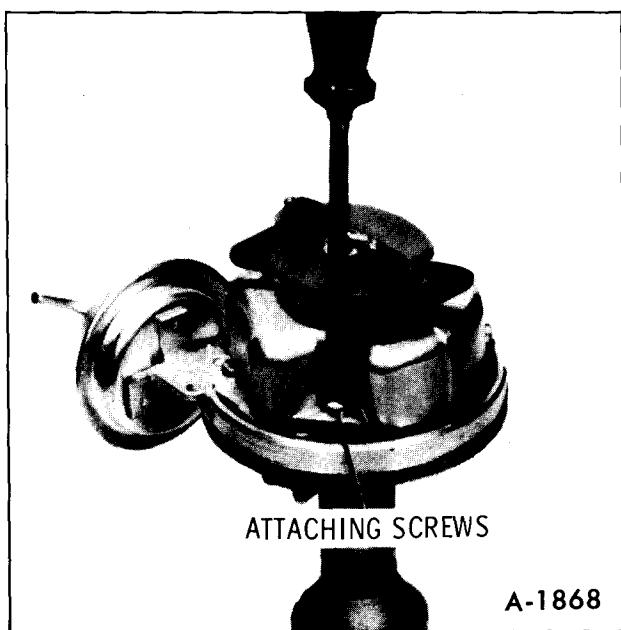

Figure 36—Removing Point Shield
2. Remove two piece metal shield attaching screws and shields. Figure 36.